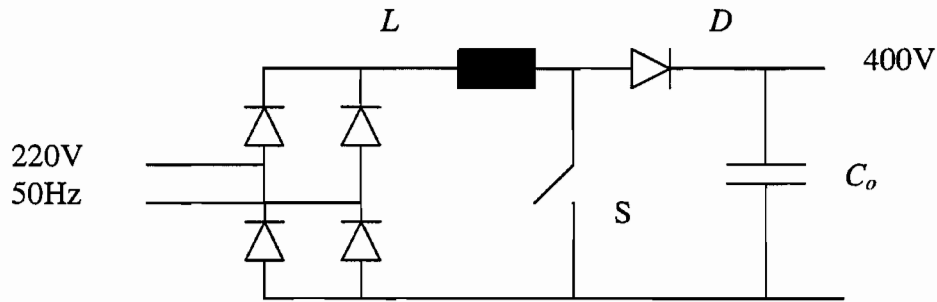

Fig.Q4
- (b) Explain, with the aid of circuit diagrams and typical waveforms, how a boost-type DC-DC converter (as shown in Fig.Q4) can be used to provide input power factor correction for AC-DC power conversion with the rectifier bridge. (6 marks)
- (c) The circuit in Fig.Q4 is fed with a load with an average output DC voltage of 400V and a constant DC current of 4A. Assuming that the input power factor is unity and an overall energy efficiency is 95%, calculate: